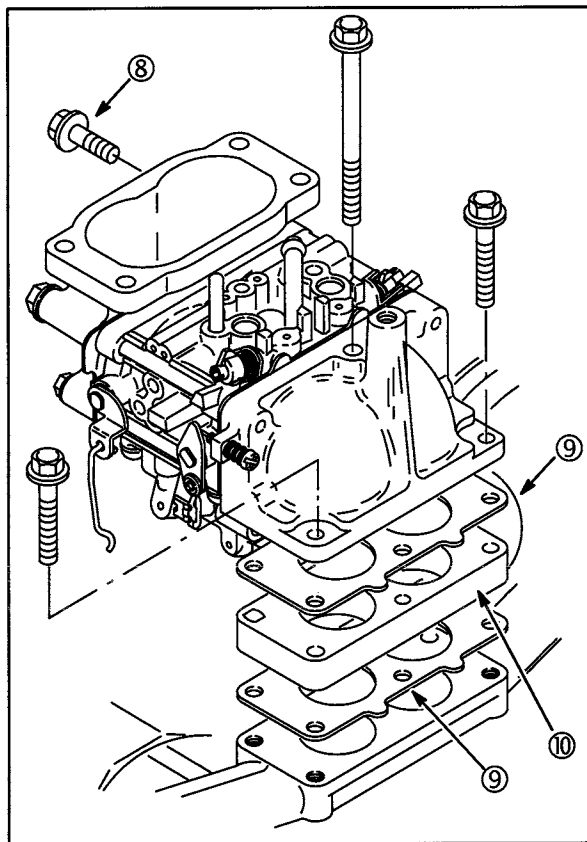

Fig. 19
5. Remove air cleaner elbow support screw (8), **Fig. 19**.
7. Remove carburetor spacer (10) and gaskets (9).